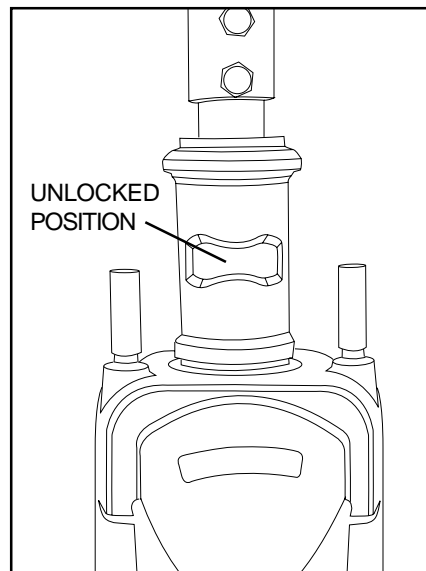

Figure 16A. Tiller Lock Knob (Unlocked)
9. Unlock the front wheel by turning the tiller lock knob 90° counterclockwise. See figure 16A.